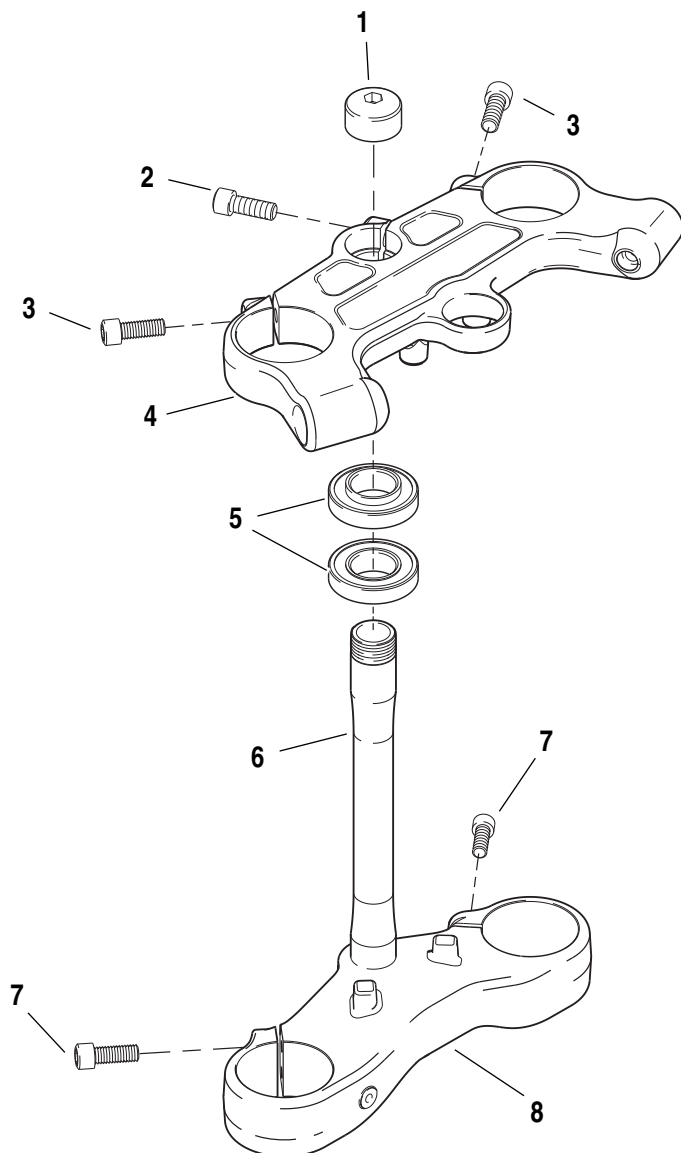
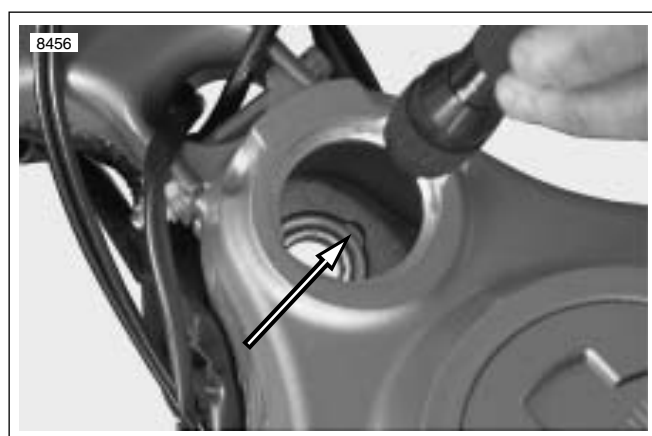

Figure 2-75. Steering Stem Assembly
Figure 2-76. Lower Steering Head Bearing Notches (upper bearing removed for clarity)
5. See Figure 2-75. Remove steering stem pinch fastener (2).
8. See Figure 2-75. Hold or brace the lower fork clamp and remove steering stem cap (1).
9. Remove the upper fork clamp (4).
10. Remove the lower fork clamp (8).
1. See Figure 2-75. Install the lower fork clamp (8) into the steering stem bore and install the upper fork clamp (4).
2. Install steering stem cap (1). Thread on by hand but do not torque.
- a. See Figure 2-75. Loosen steering stem pinch fastener (2) and upper and lower fork clamp pinch fasteners (3, 7).
- b. Brace wheel while removing steering stem capnut fastener (1).
- c. Remove upper fork clamp (4) and front-end assembly which includes front wheel, steering stem/lower fork clamp.
5. Remove upper and lower steering head bearings (5).
- a. See Figure 2-76. Locate notches inside steering head stem bore (upper bearing removed for clarity).